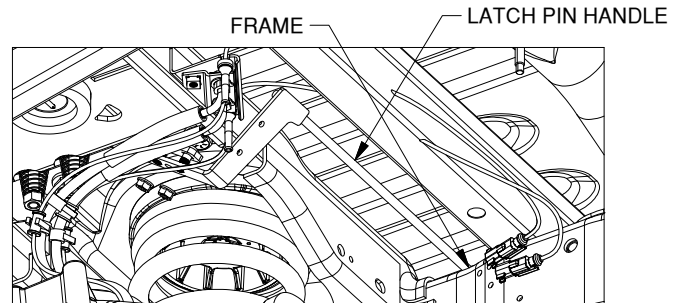

FIGURE D2: Looking back at driver side of center section.
- 2. Install the latch pin handle.** Beginning under the vehicle "thread" the end of the handle with the vinyl grip in front of the brake lines and over the frame on the driver side. Attach the handle to the latching mechanism over the 3/8" carriage bolts with two 3/8" locking flange nuts, see Figure D2. Be sure that the handle is in the proper position and that it does not interfere with any other components of the vehicle. Torque the nuts to 30 ft. lbs. to secure the handle.